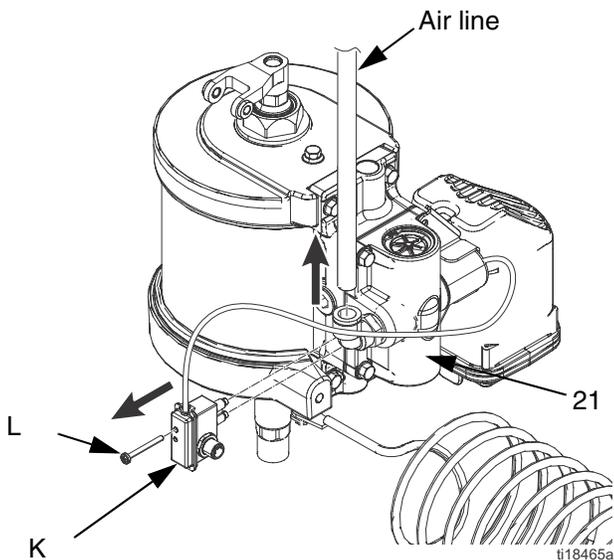

FIG. 3: Reed switch assembly & air line removal
- a. **For motors with DataTrak:** Use a T25 Torx to remove screw (L) and disconnect the reed switch (K) from the air valve (21). See FIG. 3, page 10.